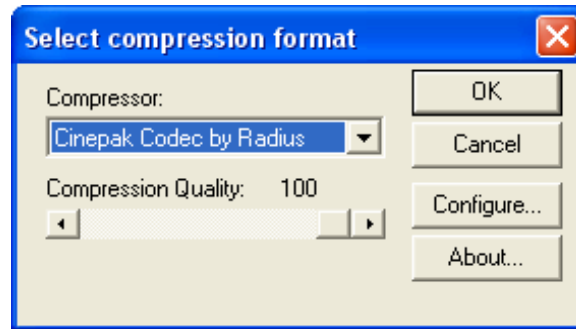

Figure 4.42 Select compression format
7. From the dialog box illustrated in Figure 4.42, select **Microsoft Video 1** from the **Compressor** list and click **Ok** button.